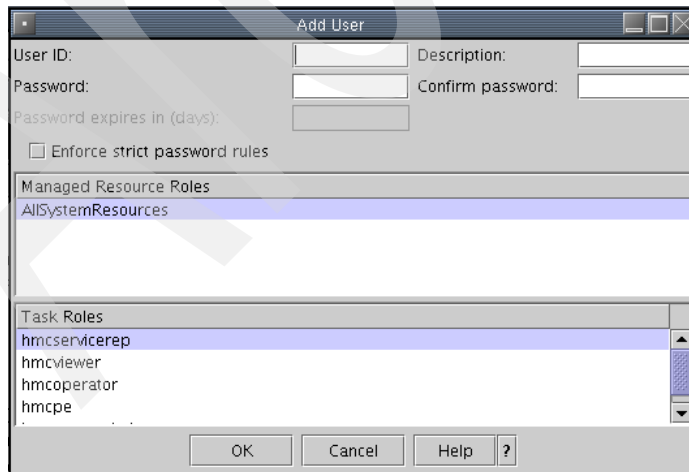

Figure 7-3 Add User window
1. Select the **User** menu, and click **Add**. to add a new user. The HMC will display the Add User window as shown in Figure 7-3.
1. Select **User** menu, click **Add**. to add a new user. The HMC will display the Add User window as shown in Figure 7-3.